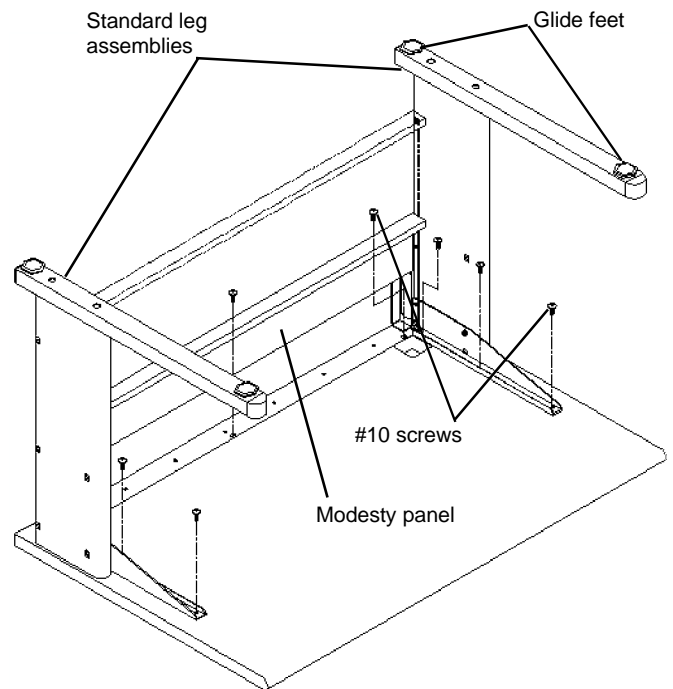

Figure 3a
2. Place the assembled legs and Modesty Panel on the Worksurface and align its pre-drilled holes with those in the Panel and Legs. Attach with the #10 screws provided. See **Figure 3a** and **Figure 3b**.